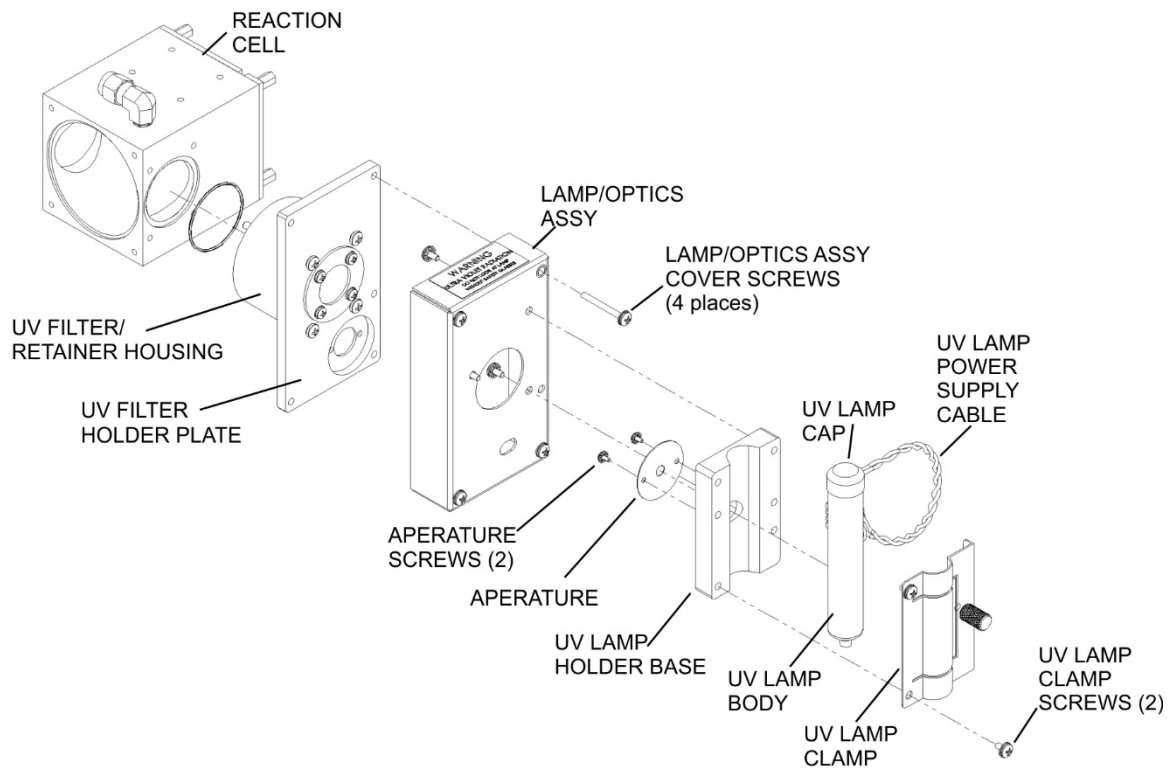
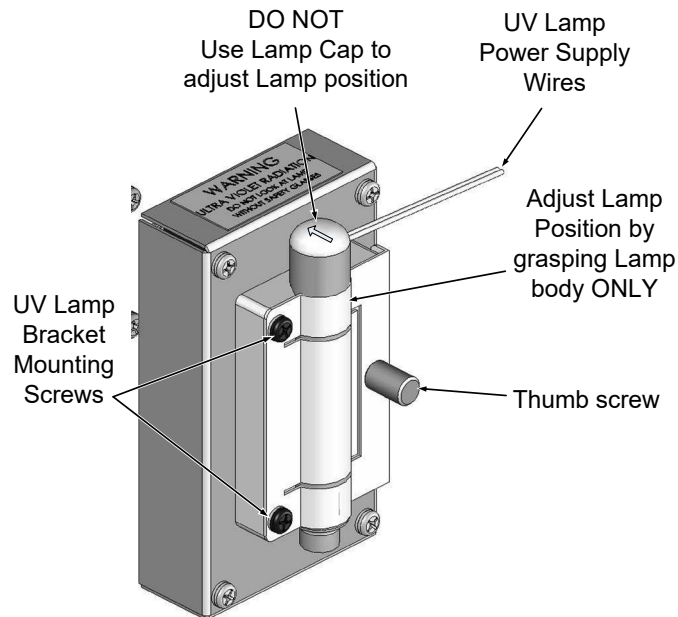

Figure 5-32. Lamp/Optics Assembly
Figure 5-33. UV Lamp Adjustment
2. Slightly loosen the large brass thumbscrew located on the lamp/optics housing (refer to Figure 5-33) so that the lamp can be moved.
DO NOT grasp the UV lamp by its cap when changing its position - always grasp the main body of the lamp (refer to Figure 5-32). Inattention to this detail could twist and potentially disconnect the lamp's power supply wires.
4. Loosen, but do not remove the two UV lamp bracket screws and the large brass thumbscrew located (refer to Figure 5-32 and Figure 5-33) on the lamp/optics housing so that the lamp can be moved.
DO NOT grasp the UV lamp by its cap when changing its position - always grasp the main body of the lamp (refer to Figure 5-32) Inattention to this detail could twist and potentially disconnect the lamp's power supply wires.